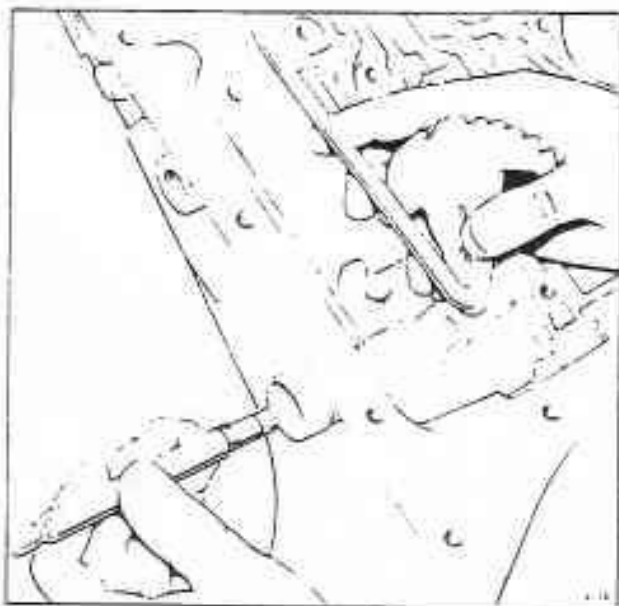

Fig. T17-4 Fitting the manual shaft
9. Lubricate the manual shaft with Shell Retinax A grease. Fit the shaft into the case and through the detent lever (see fig. T17-4).